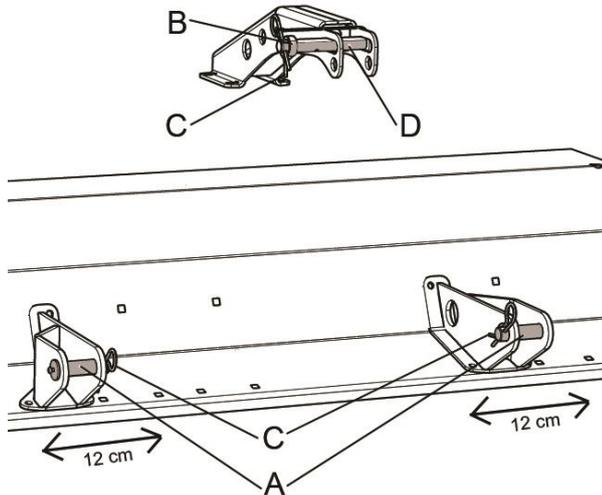

Figure 8: Connecting the machine
The machine is attached to the tractor with a hitch. The drive is taken from the PTO drive shaft, gearbox and belt transmission to the rotor with the installed hammers. The gearbox is standardly fitted with a free-wheel clutch, which prevents damages to the drive and the gearbox. According to the longitudinal axis of the tractor, the machine can be moved laterally by 12 cm by moving the lower linkage bracket after breaking through the holes indicated on the housing of the machine (Figure 8). The distance of the machine from the ground (working height) is adjusted by adjusting the position of the supporting roller bracket.
- Insert the two bolts A and secure them with locking pins C (Figure 8).